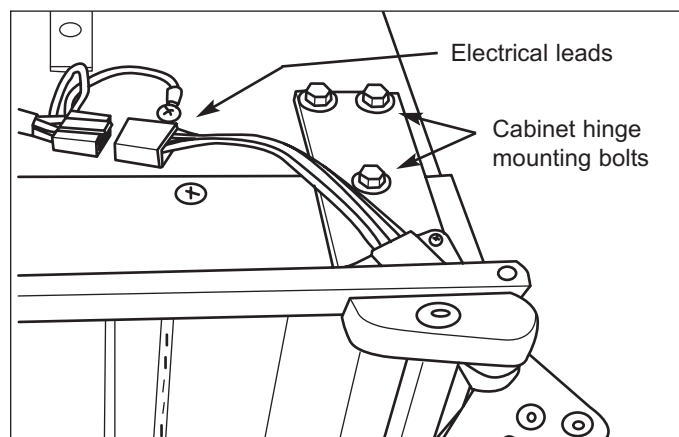

Figure 7-27. Door Electrical Leads
**Door Removal** - To remove a door (See Figures 7-27 and 7-28):